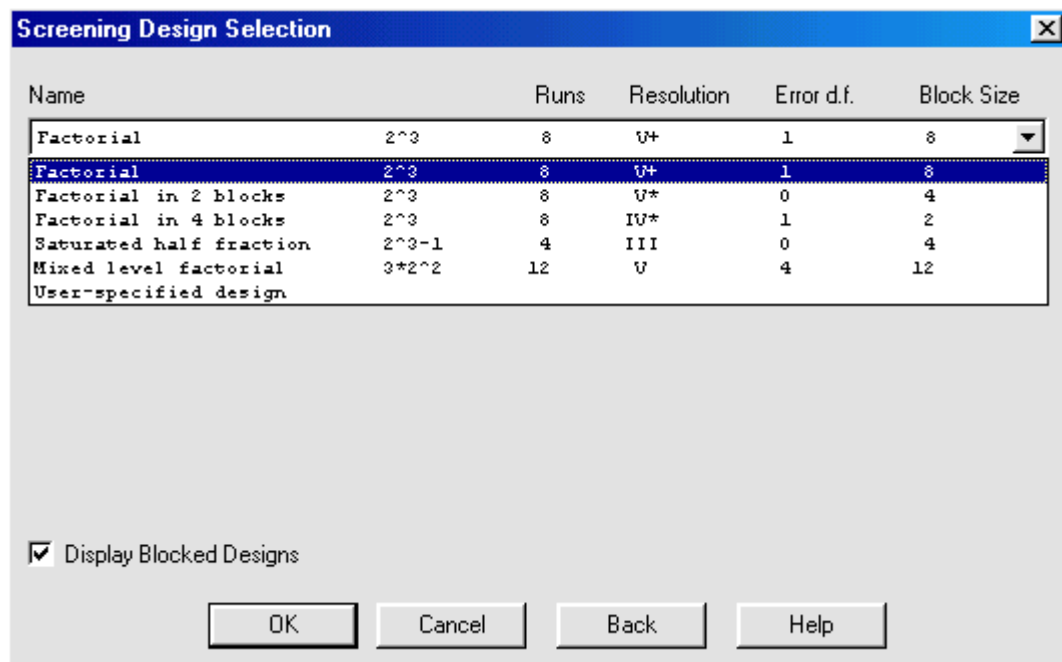

Figure 3-4. Screening Design Selection Dialog Box
7. Click OK to display the Screening Design Selection dialog box shown in Figure 3-4.
Use the Screening Design Options dialog box to choose another design. See Figure 3-4 for an example of this dialog box.